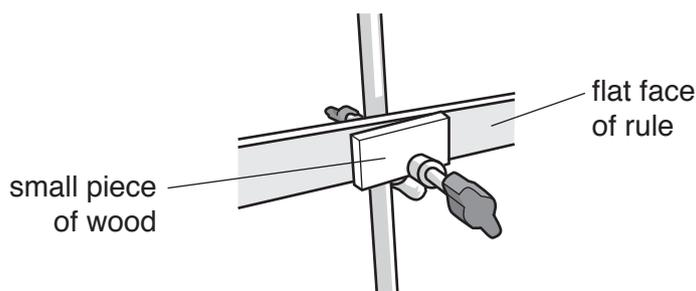

**Fig. 3.2**
2. The supervisor should set up the apparatus as shown in Fig. 3.2.
At the changeover the supervisor must ensure that the apparatus is restored to the arrangement shown in Fig. 3.2. The metre rule should be horizontal by eye.